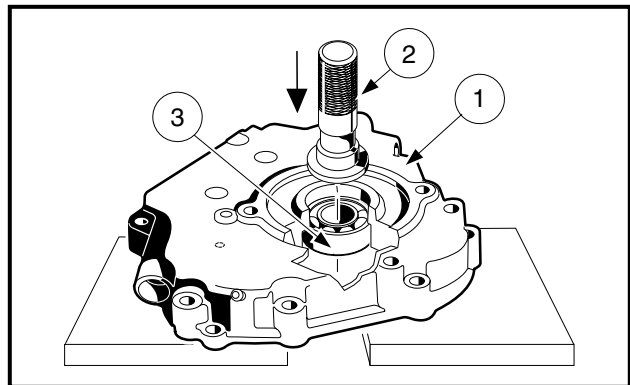

Figure 13-90 Ball Bearing Removal
2. Place the crankcase cover (1) on a bench with its outside up (gasket surface against bench) (**Figure 13-90, Page 13-41**).
3. Using a bearing driver (2) (part of Club Car Bearing Driver Kit, CCI P/N 1016416), drive out the ball bearing (3) as shown.